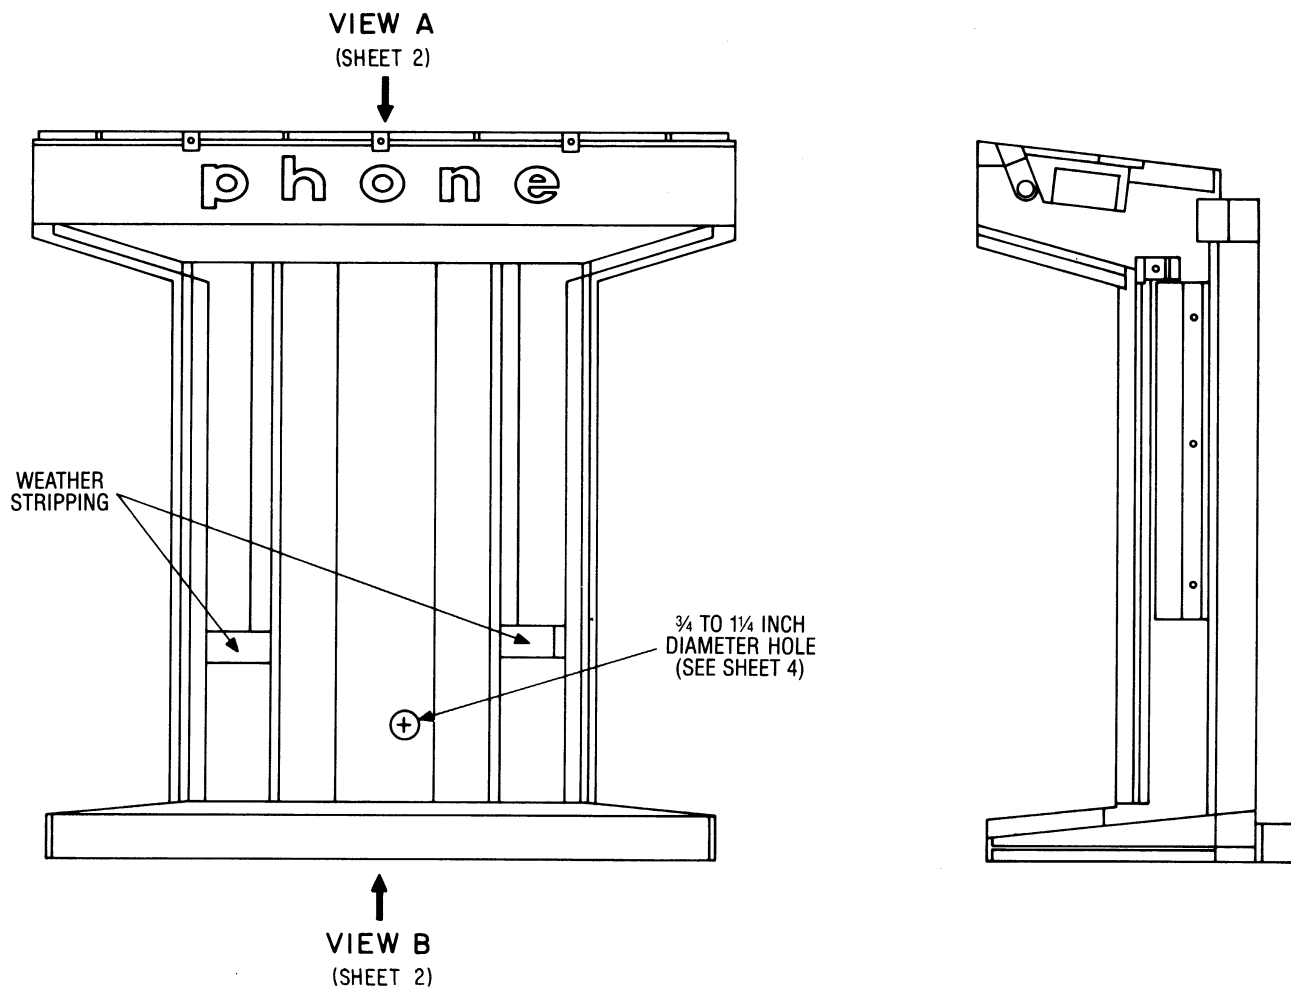

FIGURE 2A: AIR FLOW MODIFICATION TO KS-19426 HOUSING
- o Optional templates for positioning starter and mounting holes during modification to KS-19426 Housing or non-standard housing. (See Figure 2A, B, C, D)
Figures 2A, B, C, D are line drawings showing wire, venting, and mounting hole modifications required for the KS-19426 Housing to adapt it for CCTS use. This housing, which was used in the first field installation of the CCTS, is shown strictly as an example of modifications that may be required to adapt an existing enclosure for CCTS use.
Complete any required modifications to enclosure for wire, vent and mounting holes. Mount self-adhesive weather stripping on left and right rear wing panels of enclosure as shown in Figure 2A. This is required to make sure that vented air flow moves through the station instead of behind it. (See separate Job aid on enclosure installation.)